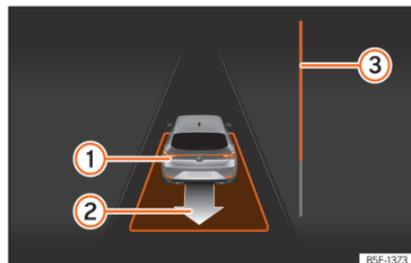

Fig. 201 On the instrument panel display: exit a parallel parking space.
- Reverse until the continuous ParkPilot signal sounds; **OR:** reverse until the instrument panel display shows the forward indication. The progress bar  **Fig. 201**  indicates the distance to cover  **page 282**.